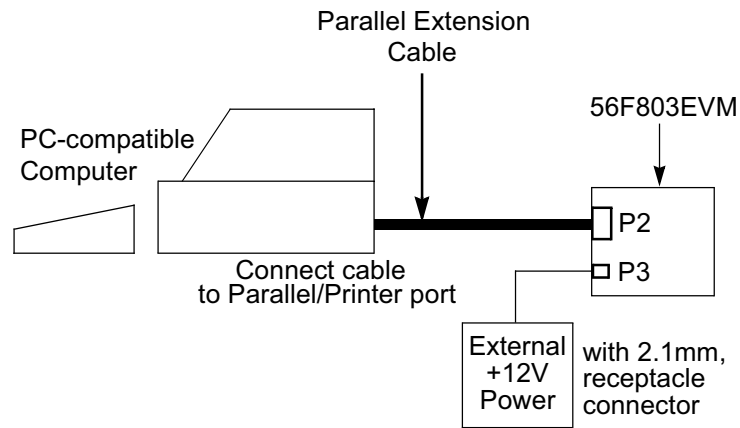

Figure 1-3. Connecting the 56F803EVM Cables
An interconnection diagram is shown in Figure 1-3 for connecting the PC and the external +12V DC power supply to the 56F803EVM board.
2. Connect the other end of the parallel extension cable to P2, shown in Figure 1-3, on the 56F803EVM board. This provides the connection which allows the host computer to control the board.
4. Connect the 2.1mm output power plug from the external power supply into P3, shown in Figure 1-3, on the 56F803EVM board.